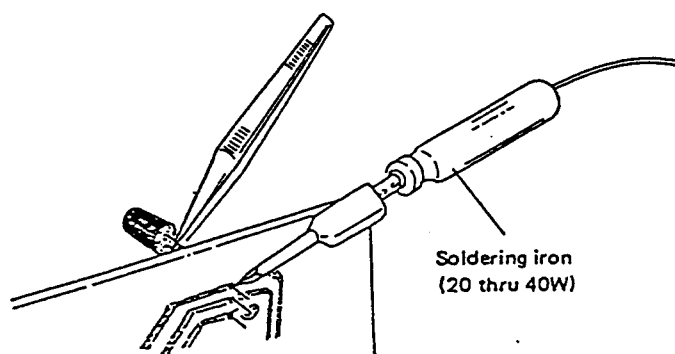

Fig. 8
5. When soldering transistors or other semiconductors, use tweezers or a heat sink clip as shown in Fig. 8 to prevent heat damage.